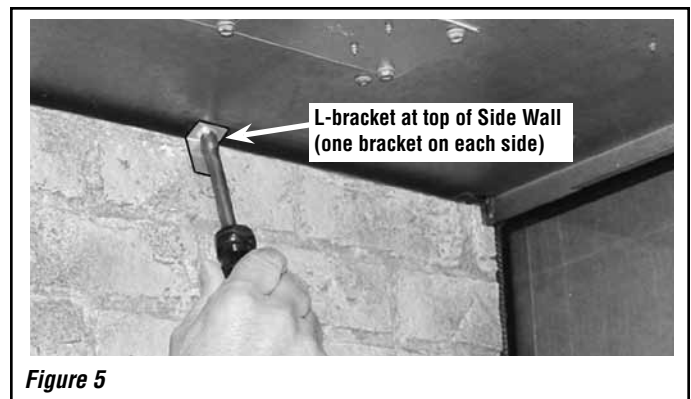

Figure 5
Step 7. Using a 5/16" nutdriver, remove L-bracket at top of firebox wall (on same side as bracket just removed). (One L-bracket is shown in **Figure 5**).
CERAMIC PANELS: Reinstall L-bracket at top of side wall (see **Figure 5**). **Go to Step 10.**